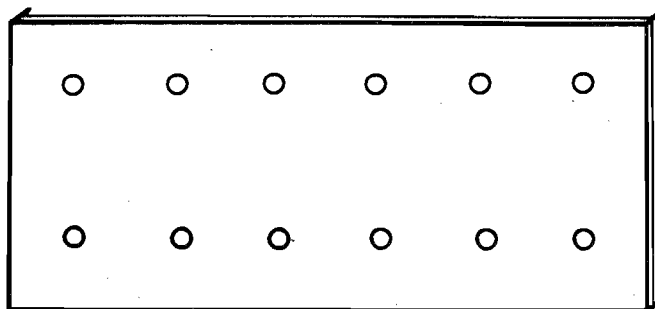

Fig.7.6: Fixing of sockets and switches on the extension board
- Take out the top of the wooden/plastic box for drilling holes in it to fix the sockets and switches (Fig.7.6). With a pencil, mark the points shown in Fig.7.6 for holes. Use a hand drill to drill holes of appropriate size at these points. Fix the sockets and switches in their appropriate positions on the top of the box with screws. Take help of your counsellor for this activity, if need be.